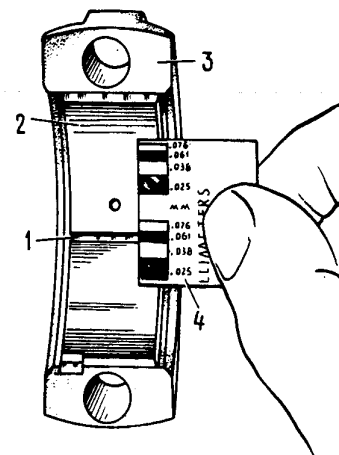

Fig. 2-29. Measuring Width of Flattened Calibrated Wire Against Scale:
- remove the cap and determine the flattening of the wire (Fig. 2-29) against the scale on the wire packing, thus finding the clearance.